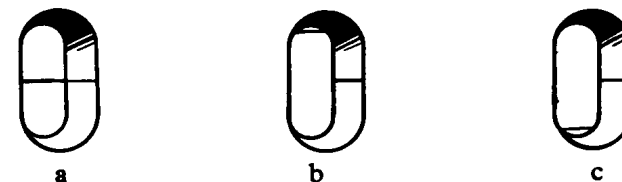

Fig. 5. Sight window marks
1.5 millimetres. Thus, to facilitate accurate mounting and setting, a small sight window is provided in the pump casing corresponding with a horizontal mark on the plunger guide 8. This mark and a similar line mark on the sight window are engraved before the pumps leave the factory. Fig. 5 above indicates the three principal positions of the guide relative to the housing.